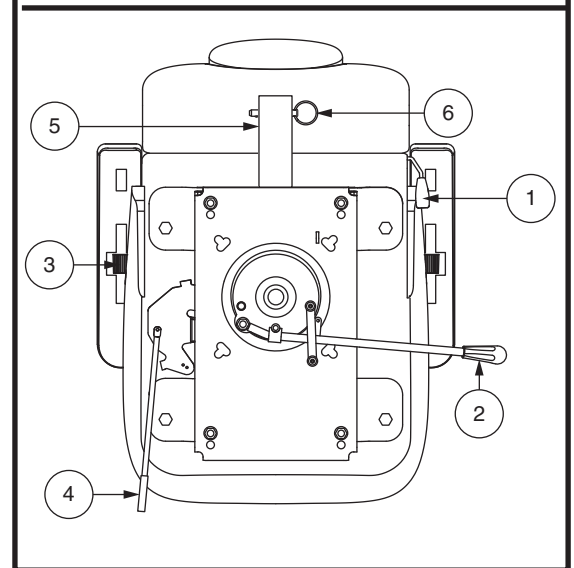

Figure 14. Seat Adjustments
To adjust your scooter's reclining seat, you can adjust the seatback angle with the seatback adjustment lever. See figure 14.
1. Pull upward on the seat rotation lever to disengage the seat. **See figure 14.**
Armrest angle of your scooter can be adjusted upward or downward by turning the adjustment dial. **See figure 14.**
1. Move the seat sliding lever located at the lower left side of the seat outward. **See figure 14.**
The rear-mounted accessory bracket allows you to attach a personal accessory such as a basket, walker holder, or oxygen tank to the back of your scooter. Utilize the detent pin to securely mount your item to the accessory bracket. **See figure 14.** See your authorized Provider for details.